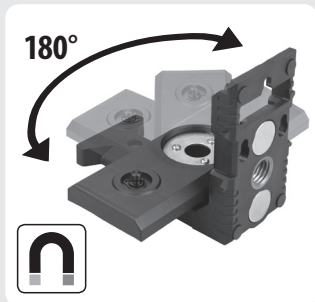

Fig. 1
- The laser device can be screwed on to a deflection arm of a magnetic holder (Fig.1), which is attached using magnets to a magnetic surface or is screwed on to a tripod (the holder has a thread for a ¼" and 5/8" tripod) or screwed on to a (5/8") thread on a wall.